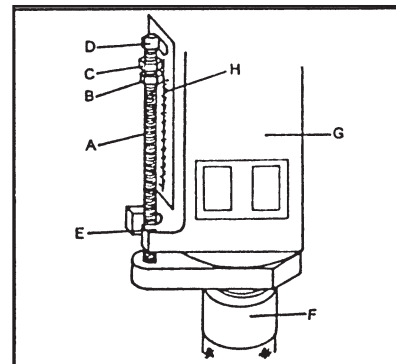

Figure 4
Located on the left side of the drill head (G) is the Spindle Feed (or depth feed) adjuster assembly, which allows the depth of the hole to be set. The procedure for setting the drilling depth is as follows (See Figure 4):
1. Lower the Chuck (F) until the drill contacts the surface of the workpiece and hold that in position.
2. Screw down the adjuster nut (B) so that the gap between its underside and face (E) is the depth of the hole required.
3. Screw down nut (C) and lock it against the adjuster nut (B).